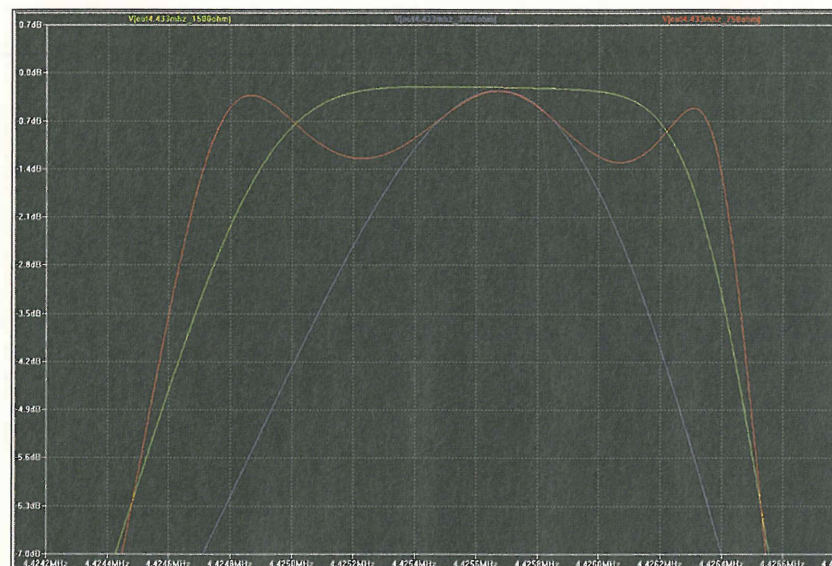

**Figure 3:** Plot of quartz crystal reactance versus frequency
**Figure 3** shows how this equivalent circuit behaves at different frequencies. It is the peaks and troughs seen in the frequency response that are exploited in crystal-based filters.